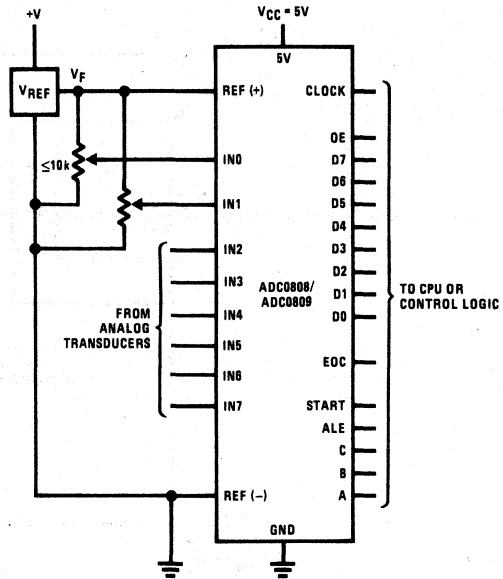

FIGURE 3. Ratiometric Converter with Separate Reference
*Figure 3* shows a typical input connection for ratiometric transducers. A ratiometric transducer is a conversion device whose output is proportional to some arbitrary full-scale value. In other words, the transducer's absolute output value is of no particular concern but the ratio of the
output to the full-scale is of great importance. For example, the potentiometric displacement transducers of *Figure 3* have this feature. When the wiper is at midscale, the output voltage is  $V_O = V_F \times (\text{Wiper Displacement}) = V_F \times 0.5$ . This enables the use of much less accurate and less expensive references. The important consideration for this reference is noise. The reference must be "glitch free" because a voltage spike during a conversion cycle could cause conversion inaccuracies.